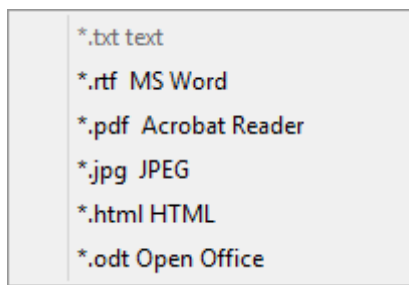

Fig.79 Format selection
- select the file format to save(Fig.79):